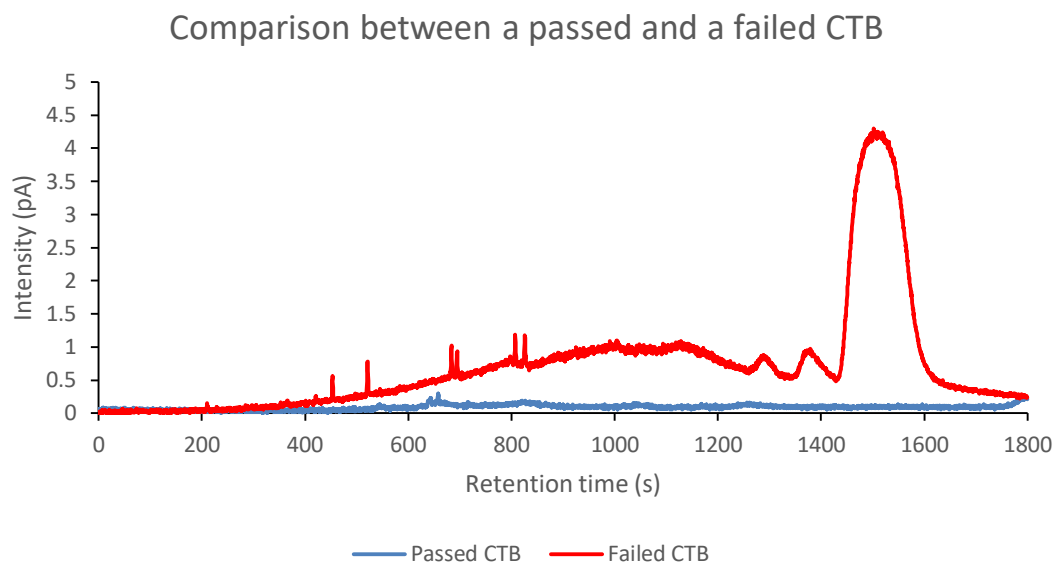

Figure 6. Examples of a passed and failed CTB
3.3.1 Export the LNS matrix data using the FAIMS Viewer (see 95-0011 TD-GC-Lonestar Data processing with FAIMS Viewer). Any background peaks should be <2pA (Figure 6).